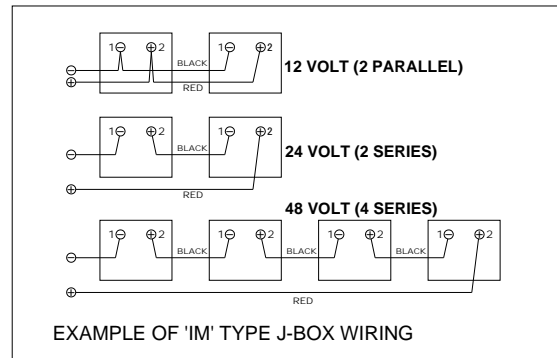

Figure 3. Standard Wiring Examples
As shown in Figure 3 Standard Wiring Examples, Kyocera PV modules utilize the Type "IM" junction box (see J-box details). This junction box, located on the back side of the module, is weatherproof and is designed to be used with standard wiring or conduit connections. A cable clamp with a minimum rating of IP65 must be used to maintain the weatherproof integrity of the junction box. Bypass diodes are preinstalled at factory.
- Determine the nominal system array voltage of your system. Each panel is equivalent to a 12 VDC nominal block. Standard array voltages 12, 24 and 48 volt are shown as examples in Figure 3.